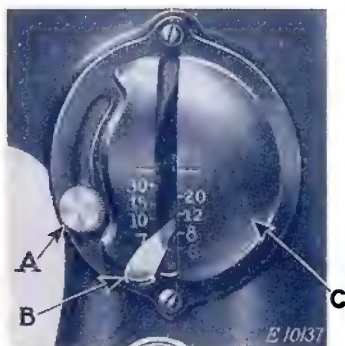

FIG. 14. SHOWING LEVER FOR REVERSING DIRECTION OF FEED AND REGULATING LENGTH OF STITCH
To feed the goods **from you**, push down the stitch regulator lever (B, Fig. 14) as far as it will go.
The machine can be adjusted to make from 6 to 30 stitches to the inch as indicated by the numerals on the stitch indicator plate (C, Fig. 14).
The number of stitches to the inch that the machine is set to make is indicated by the number which is in line with the upper side of the stitch regulating lever (B, Fig. 14).
To change the length of stitch, loosen the thumb screw (A, Fig. 14) and move it to the bottom of the slot. Then move the stitch regulating lever (B) until its upper side is in line with the number of the desired length of stitch. Now move the thumb screw (A) until the stitch regulating plate touches the lever (B), then tighten the thumb screw (A).